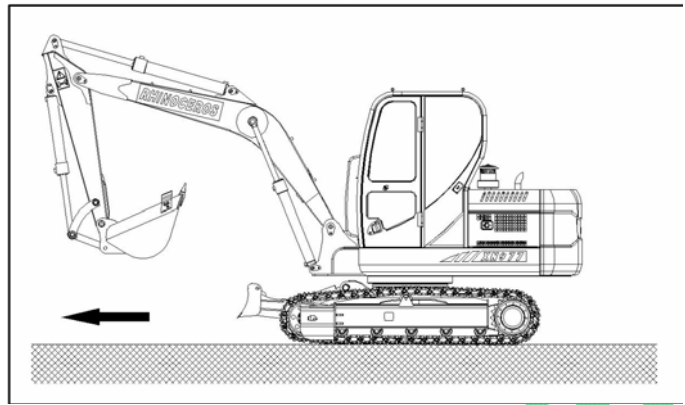

Fig 3—28
6. When walks on uneven ground, choose low speed(1.0—1.5km/h) to reduce the speed of the engine(Fig 3—29)。